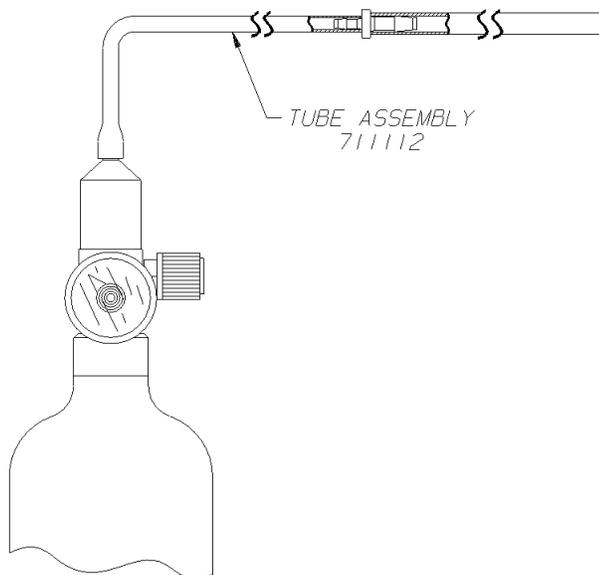

Fig. 25 Calibration Tubing Set-up
- Ensure that the tubing completely covers the gas outlet (Fig. 25 "Calibration Tubing Set-up").